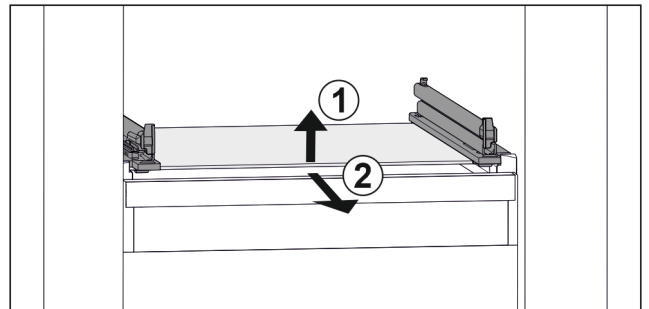

Fig. 151 Example illustration of glass shelf
- ▶ Lift glass shelf at the front. Fig. 151 (1)
- ▶ Take out glass shelf to the front. Fig. 151 (2)